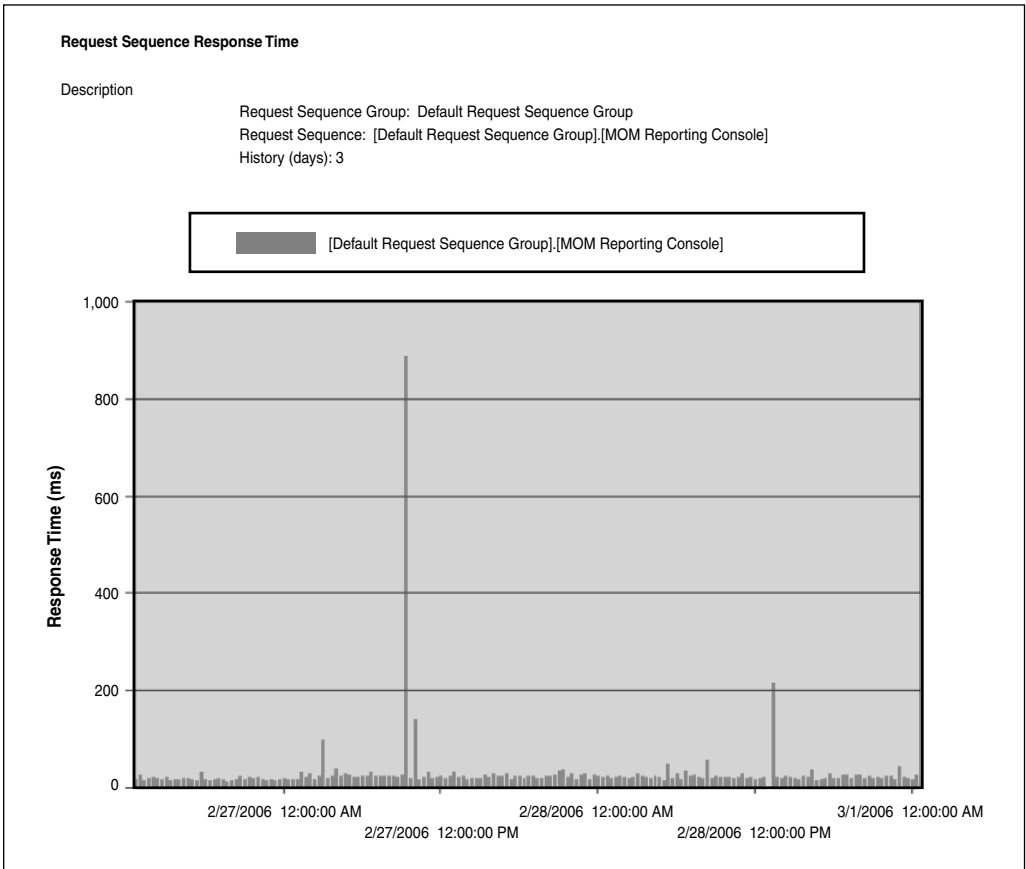

FIGURE 10.20 Web Sites and Services Request Sequence Response Time report.
**Reports** The Web Sites and Web Services management pack also provides reports specifying the time required to access websites. The management pack assists you in identifying web server latency, which can help identify performance bottlenecks in the MOM web components. The management pack contains reports that assist in tracking performance of your Request Sequences. An example would be the Request Sequence Response Time report. This report graphs the response time in milliseconds for a specific request sequence. Figure 10.20 displays sample output, showing the response time of the MOM Reporting console request sequence.